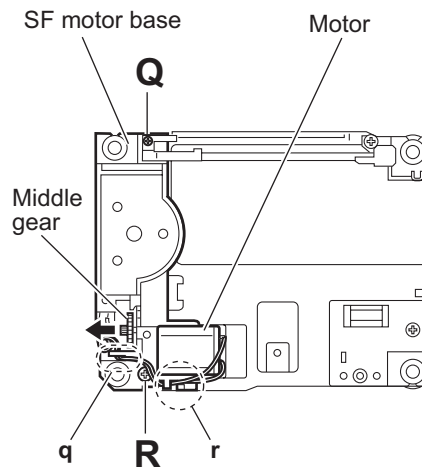

Fig.17
3.2.10 Removing the motor (See Figs.17 and 18)
- (1) Remove the middle gear in the direction of the arrow. (See Fig.17.)
- (2) Remove the screw **Q** and screw **R** attaching the SF motor base. (See Fig.17.)
After attaching the feed motor, let the wires through the sections **q** and **r** on the SF motor base. (See Fig.17.)